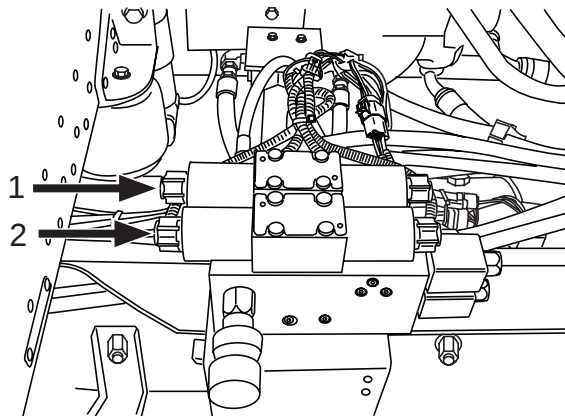

Figure 67
6. Manually shift the start/stop valve spool by pressing in on the end of the spool (Figure 67, Item 1).
7. Engage the Bridgemaster trailer function by manually shifting the start/stop valve spool (Figure 67, Item 2).